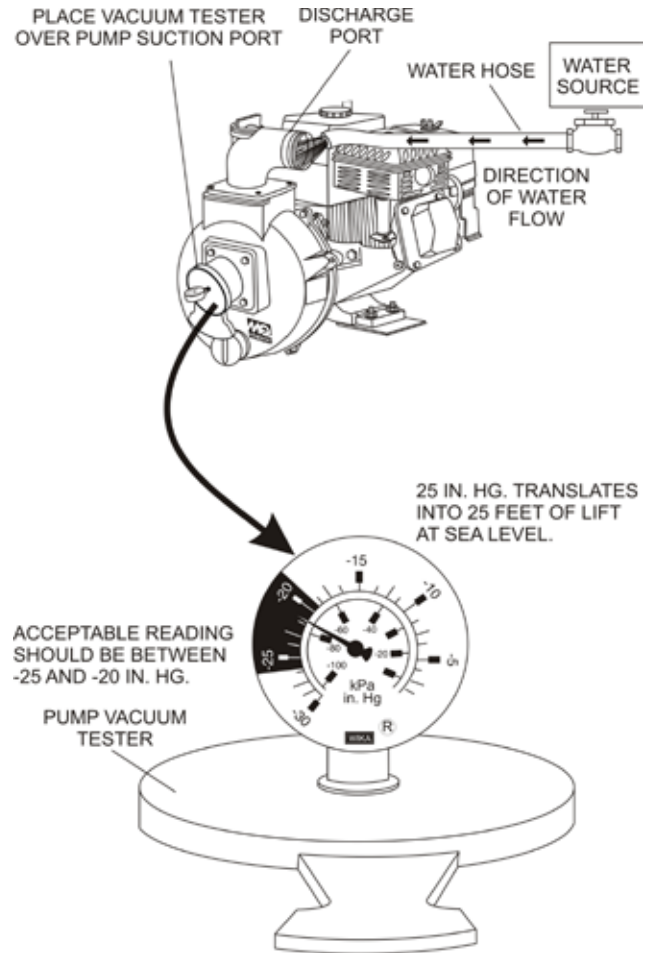

Figure 27. Pump Vacuum Test
3. As shown in Figure 27, place a water hose inside the discharge opening of the pump, and turn on the water. This flow of water into the discharge opening will prevent the pump from running dry.